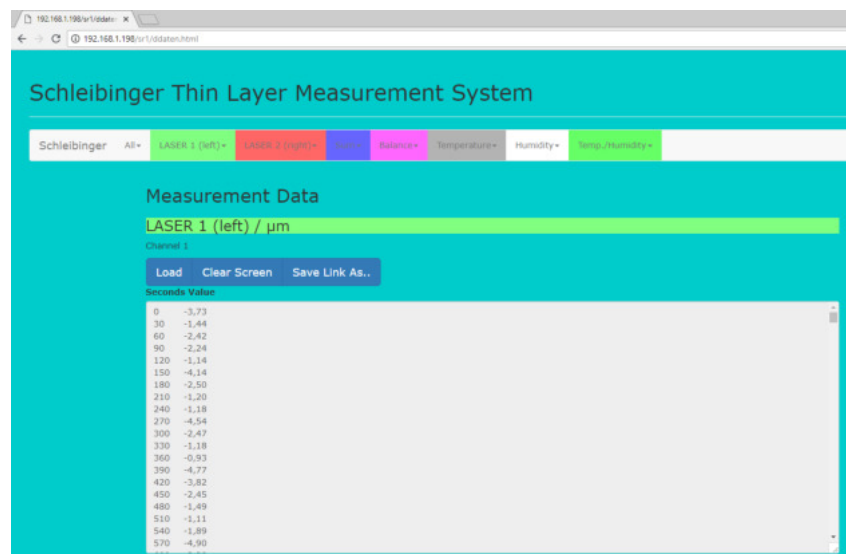

Figure 25: Measurement values of single channel as text file
- All measuring data values will be displayed (Fig. 25)